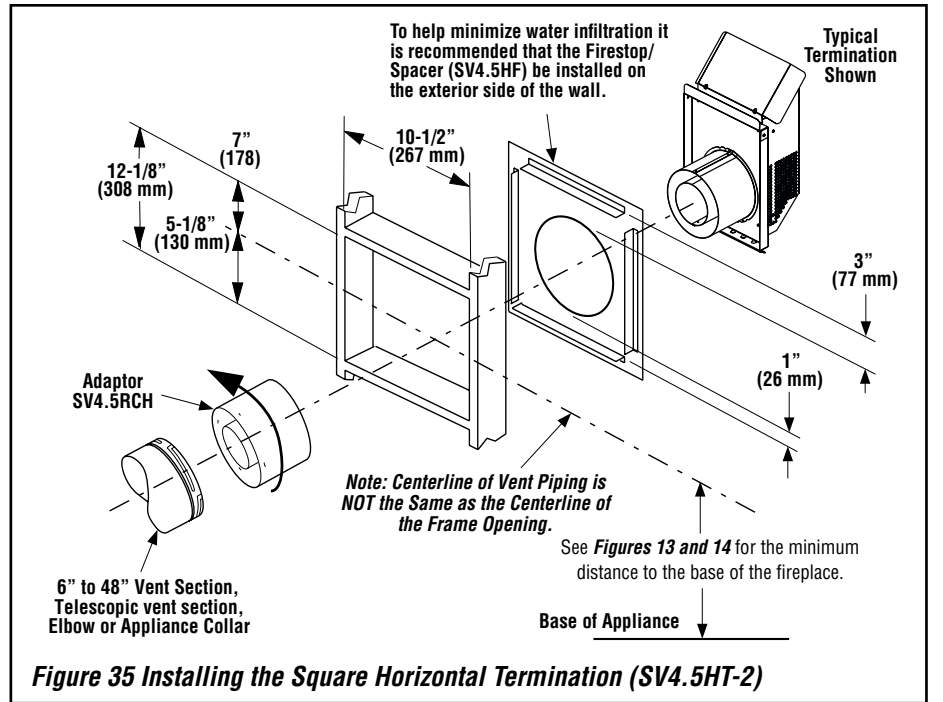
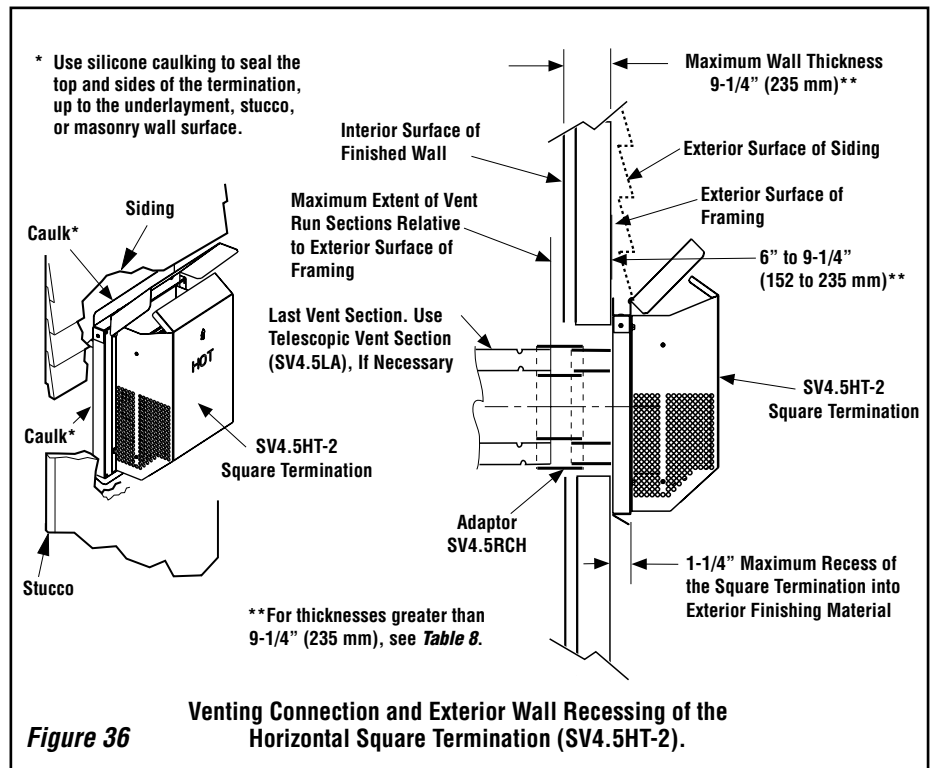

Figure 35 Installing the Square Horizontal Termination (SV4.5HT-2)
Figure 36 Venting Connection and Exterior Wall Recessing of the Horizontal Square Termination (SV4.5HT-2).
J. Assemble vent run to exterior wall - If not previously measured, locate the center of the vent at the exterior wall. Prepare an opening as described in **Step B**. Assemble the vent system to point where the terminus of the last section is within 7" (178 mm) to 11-1/4" (286 mm) inboard of the exterior surface to which the SV4.5 HT termination is to be attached, see **Figure 35**. If the terminus of the last section is not within this distance, use the **telescopic vent section SV4.5LA**, as the last vent section. For wall thicknesses greater than that shown in **Figure 36**, refer to **Table 8 on Page 24**. This table lists the additional venting components needed (in addition to the termination and adaptor) for a particular range of wall thicknesses.
K. Attach termination adaptor - Attach the adaptor (adaptor - SV4.5RCH - provided with the termination) to the vent section or telescoping vent section), elbow or appliance collar as shown in **Figure 36** in the same manner as any SV4.5 vent component (refer to **Step E**).
L. Install Firestop/Spacer at exterior wall - When using the **square** termination, install SV4.5HF (Secure Vent), SF4.5HF (Secure Flex) Firestop/Spacer over the opening at the exterior side of the framing, long side up, with the 3" spacer clearance at the top as shown in **Figure 35**, and nail into place.
For the last step, from outside the exterior wall, slide the collars of the termination onto the adaptor (the outer over the outer and the inner inside the inner) until the termination seats against the exterior wall surface to which it will be attached. Orient the housing of the termination with the arrow pointed upwards. Secure the termination to the exterior wall. **The horizontal termination must not be recessed into the exterior wall or siding** by more than the 1-1/4" (32 mm) as shown in **Figure 36**.
Table 8 *NOTE: See Figure 36 showing wall thickness range when using SV4.5HT-2 termination kit.*